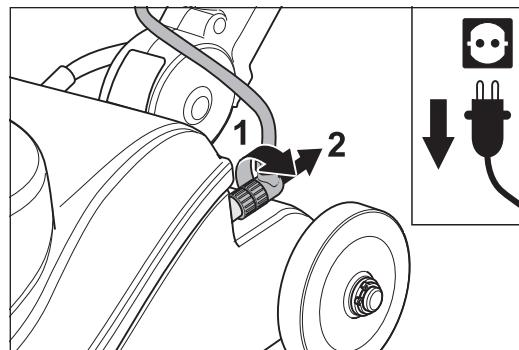

Fig. 28 Disconnect the cable plug of the guide tube from the machine housing.
- 4 Release the cable plug of the guide tube by turning the threaded ring on the cable plug and pull out the plug (Fig. 28).**